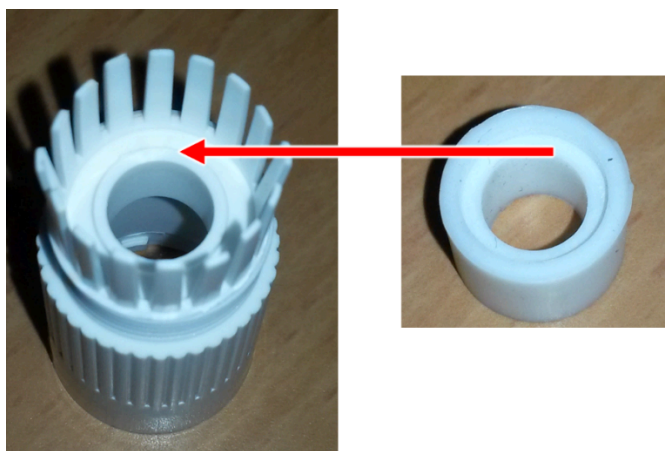

Figure 13. Rubber Gasket Inset Ridge: Fitting on Ridge Inside Endcap
4. If needed, insert the rubber gasket (5) into the endcap (4). If there is a ridge, fit the rubber gasket in-set ridge on the ridge inside the endcap (see Figure 13).